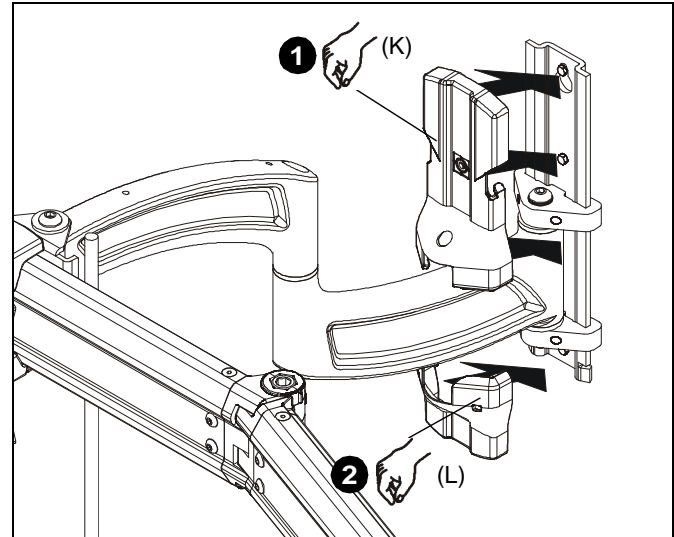

Figure 18
1. Install top cover (K) onto upper section of wall plate. (See Figure 18)
2. Install bottom cover (L) onto lower section of wall plate. (See Figure 18)